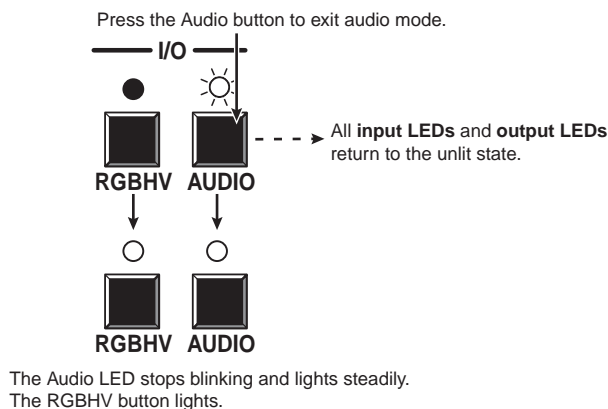

Figure 3-48 — Deselect Audio mode
5. Press and release the Audio button (figure 3-48).